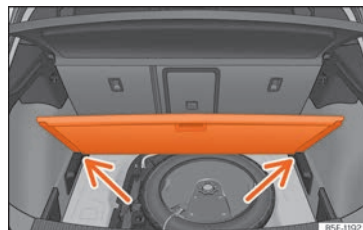

Fig. 117 Variable luggage compartment floor: inclined position.
- Rest the floor on its housings » **Fig. 117** [arrows].